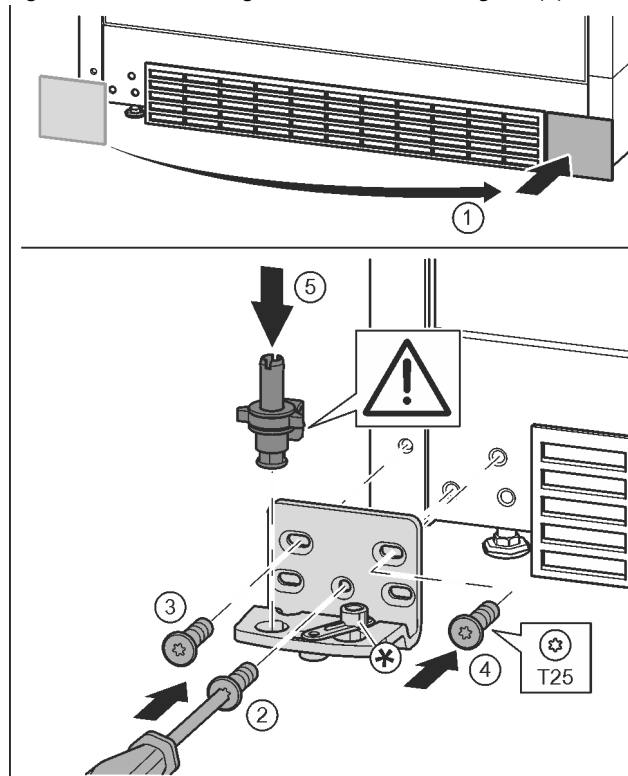

Fig. 18
- ▶ Remove the cover and fix it on the other side. Fig. 18 (1)
- ▶ Place the bearing bracket on the other side and screw in with the aid of a T25 screwdriver. Start with screw 2 at the bottom in the middle. Fig. 18 (2)
- ▶ Screw in screws 3 and 4. Fig. 18 (3, 4)
- ▶ Insert the bearing pin completely. Make sure that the catch mechanism is pointing to the rear. Fig. 18 (5)